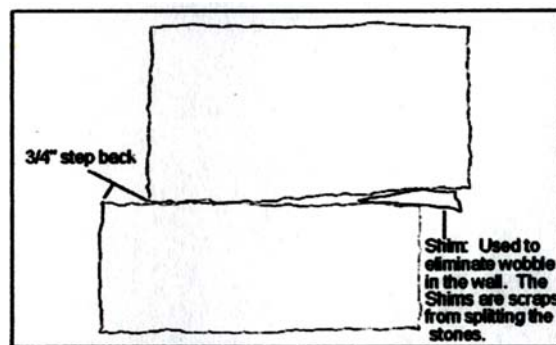

Figure 10. Use shims to level natural stone walls. (Illustration by Chris Matson).
4. Begin leveling the base course of stone by placing a stone on the coarse rock. Check for level front to back and side to side and adjust accordingly with a large mallet. Due to the nature of the material, the stone will not be perfectly level, but it is possible to be very close using shims if necessary (Figure 10). Once the first stone is level, continue along the trench and make sure each new stone is level with the preceding stone. Use the string line again to make sure that the straight sections are straight.
6. Stack the second course of stone on top of the base course. Make sure the seams between the stones do **not** line up from one course to the other. Also, pick stones that fit well with those on either side. If there are large gaps, it may be necessary to use a stone splitter to get a more snug fit. Each course should be set back at least 3/4 inch to allow the wall to lean back into the ground that it will be retaining. Often, the stones will not lay perfectly level on the preceding course. In this case, it is necessary to shim the backs of the stones to eliminate wobbling. Shims are small flat stone chips that break off the stone when they are split (Figure 10).